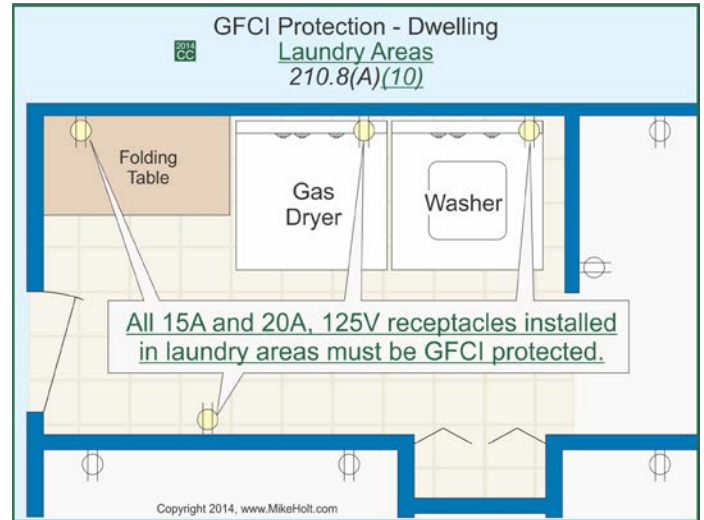

Figure 210-34
(10) Laundry Areas. All 15A and 20A, 125V receptacles installed in laundry areas of a dwelling unit must be GFCI protected. Figure 210-34